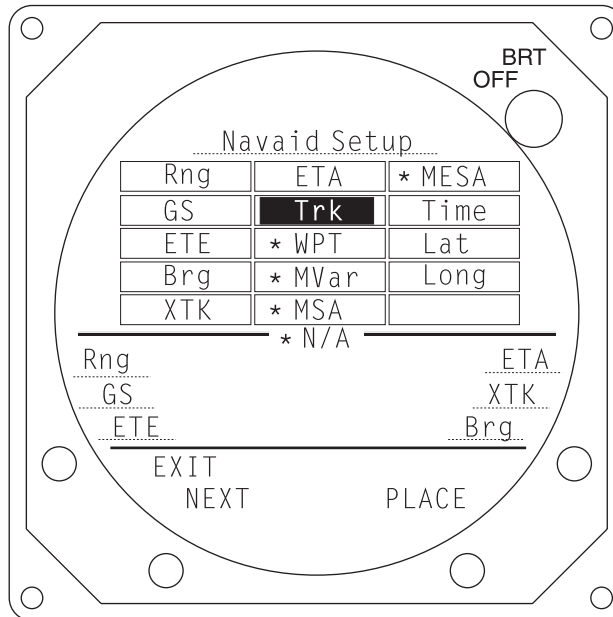

Figure 3-9. Navaid Setup
Figure 3-9 shows the Navaid Setup display.
- **CANCEL** - aborts the selection and returns to the Navaid Setup screen (figure 3-9).